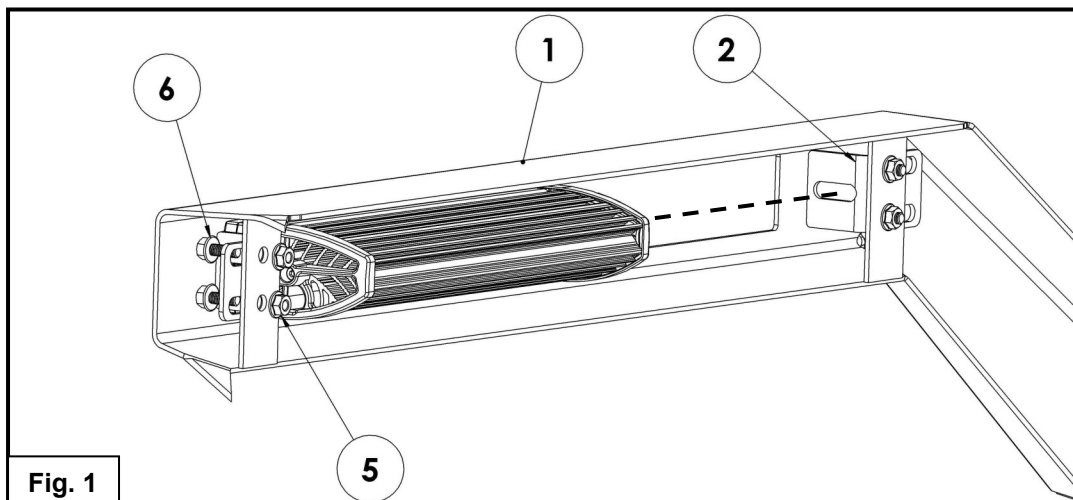

Fig. 1
2. Install Sliding Light Brackets (Item 2) to Light Hoop Assembly (Item 1) with supplied hardware; (4) 1/4" Hex Flange Nuts and (4) 1/4" Hex Flange Bolts. See **Figure 1**, (Note: **Install light with light manufacturer hardware.**)